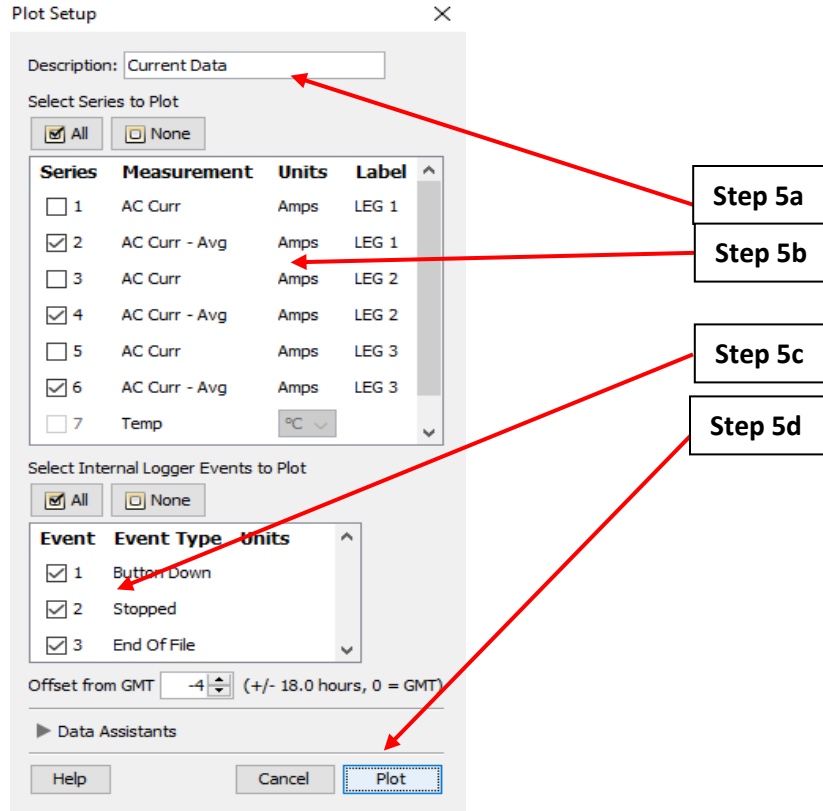

Figure A.4.16: The “Plot Setup” pop-up window with the corresponding steps.
5. The “Plot Setup” window will open (see Figure A.4.16).
- i. For example, for the Onset HOBOWare Split-Core Current Sensor, the “AC Curr – Avg” measurements (Unit: “Amps”) were selected as shown Figure A.4.16.